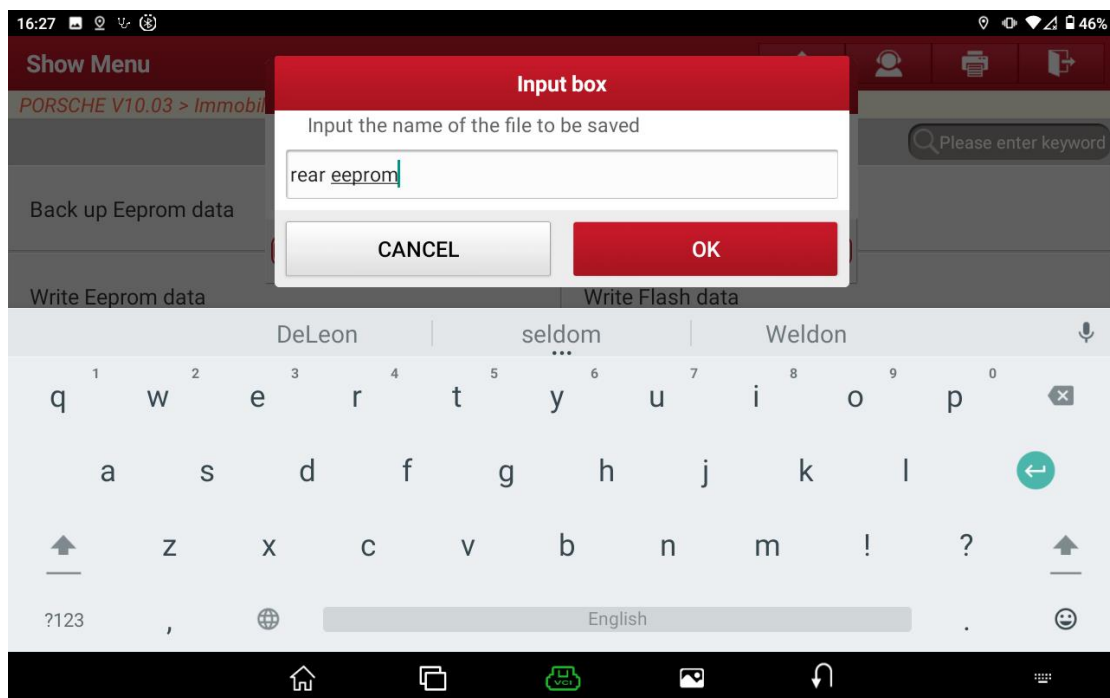
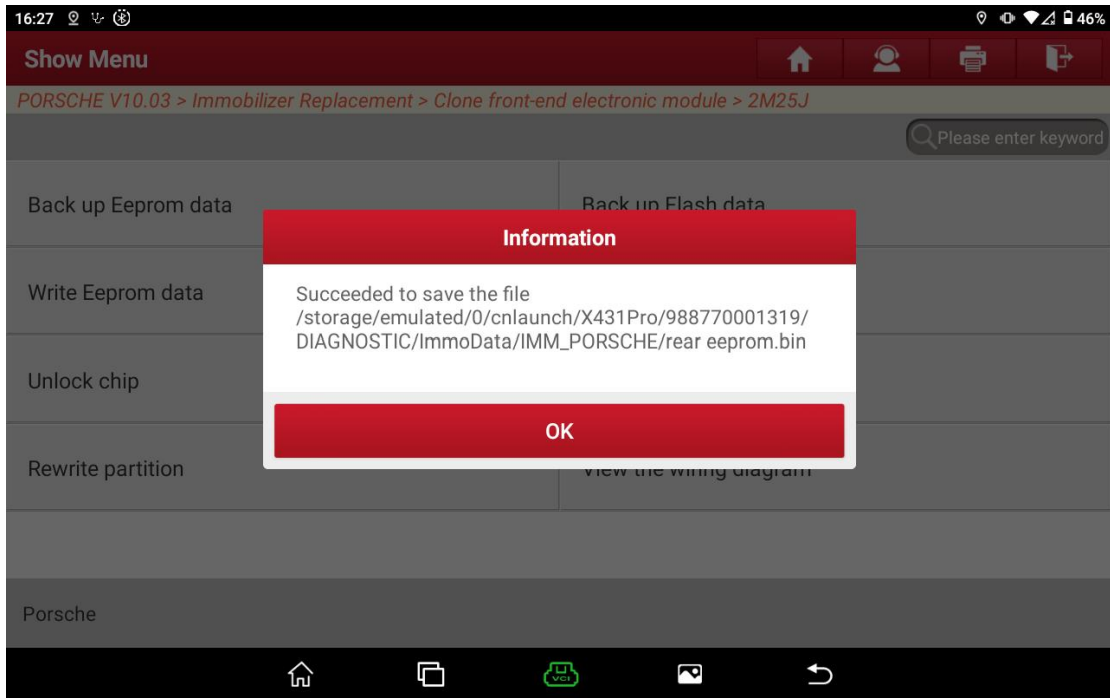

Figure 4
Figure 5
5. After about 10 seconds, the EEPROM data backup is successful. Input the file name and save the EEPROM data file, as shown in Figure 4 and Figure 5.